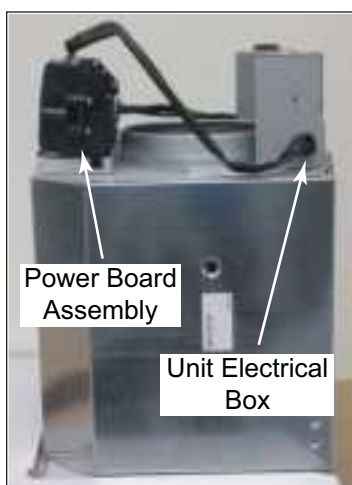

Figure 3-7. Wall Hood Easy Cube - Side View
2. The Easy Cube has the control board mounted on front edge, and unit electricals mounted on back edge. (See Figure 3-7)